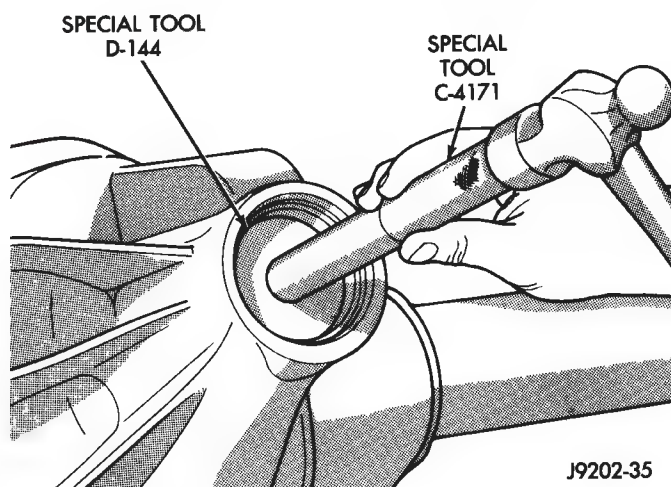

Fig. 45 Pinion Front Bearing Cup Installation
(1) Install the pinion front bearing cup with Installer D-144 and Handle C-4171 (Fig. 45).